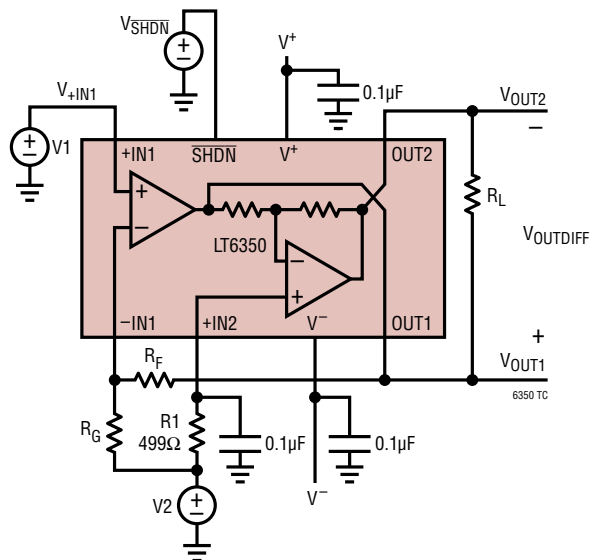

Figure 1. DC Test Circuit.
**Note 6:**  $V_{\text{OS2}}$  is measured as the total output common mode voltage offset (error between output common mode and voltage at  $V_2$ ).  $V_{\text{OS2}}$  includes the combined effects of op amp 2's voltage offset,  $I_B$ ,  $I_{\text{OS}}$  and mismatch between on-chip resistors and the  $499\Omega$  external resistor, R1 (See Figure 1).
$T_A = 25^\circ\text{C}$ ,  $V^+ = 5\text{V}$ ,  $V^- = 0\text{V}$ ,  $V_{+IN1} = V_2 = \text{Mid-Supply}$ ,  $V_{SHDN} = V^+$ ,  $R_F = \text{SHORT}$ ,  $R_G = \text{OPEN}$ ,  $R_L = \text{OPEN}$ . See Figure 1.
$T_A = 25^\circ\text{C}$ ,  $V^+ = 5\text{V}$ ,  $V^- = 0\text{V}$ ,  $V_{+IN1} = V_2 = \text{Mid-Supply}$ ,  $V_{\text{SHDN}} = V^+$ ,  $R_F = \text{SHORT}$ ,  $R_G = \text{OPEN}$ ,  $R_L = \text{OPEN}$ . See Figure 1.